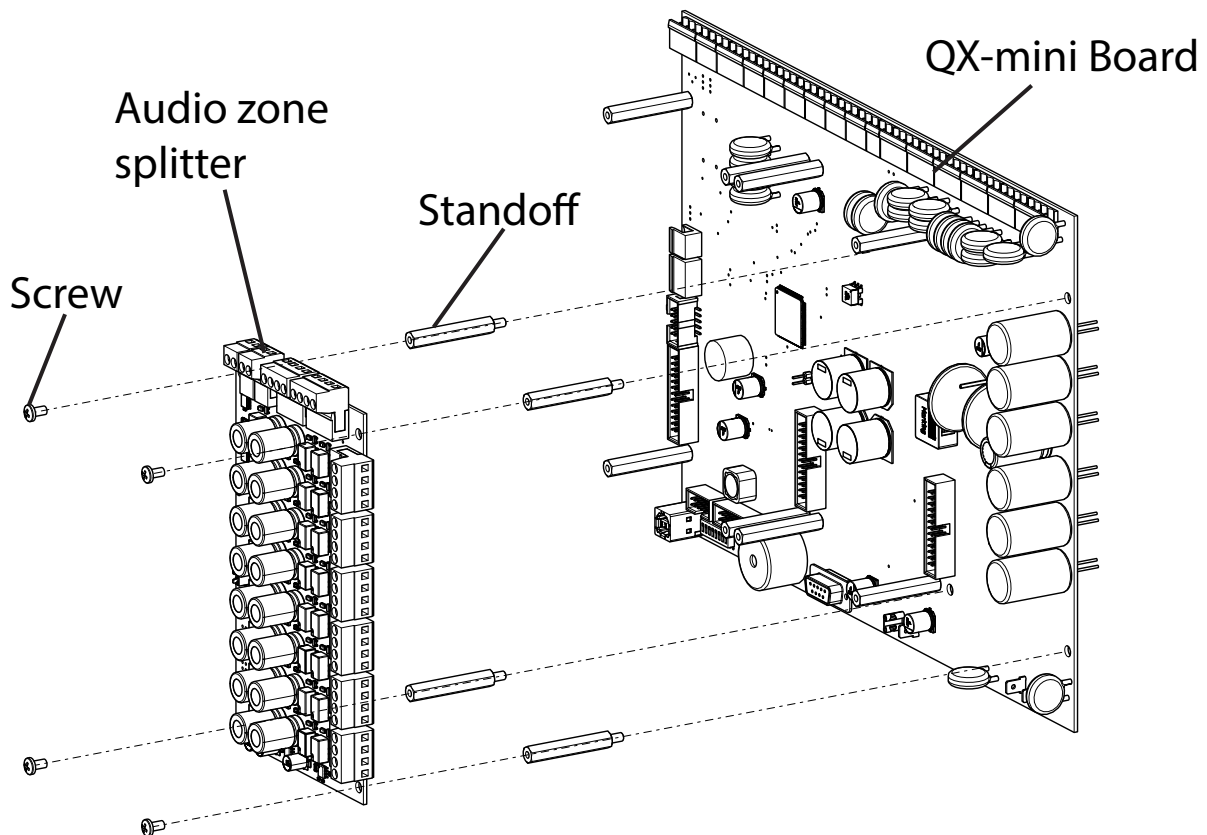

Figure 27 Installing the audio zone splitter module
1. Replace one standoff for each screw on the right side of the QX-mini main board as shown in Figure 27.